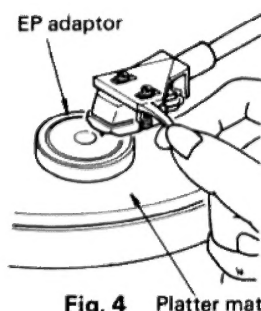

Fig. 4
2. Release the arm from clamping and slightly lift it up until it stops, then confirm that the stylus tip is about 7 – 9 mm above the platter mat. (See Fig. 4)